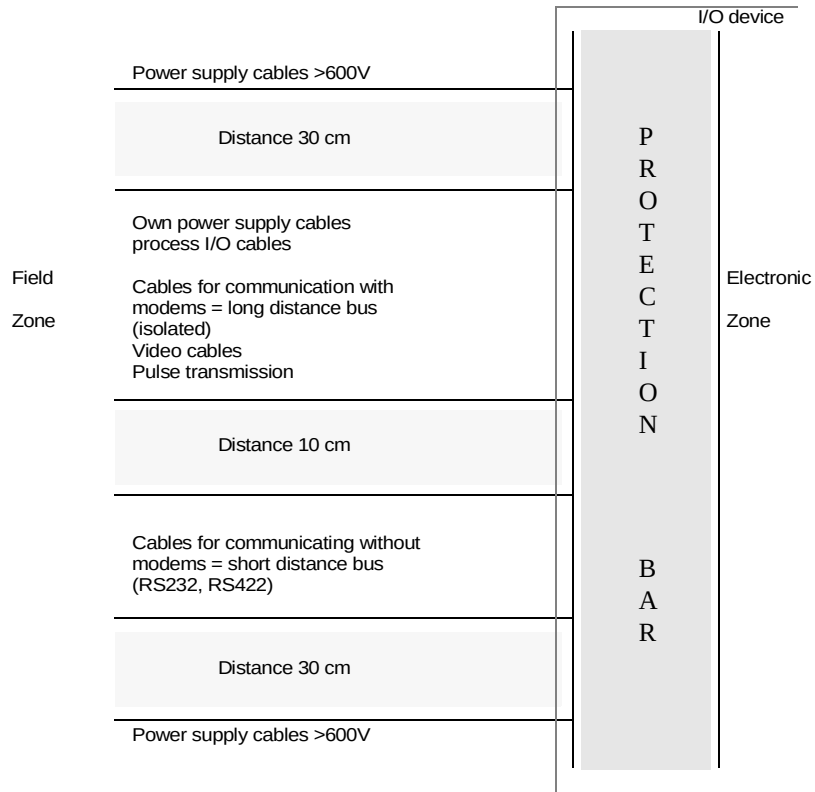

Figure 2-16. Recommended Field Cable Wiring Distances
6. The field cables must be wired according to the recommendations of Figure 2-16.